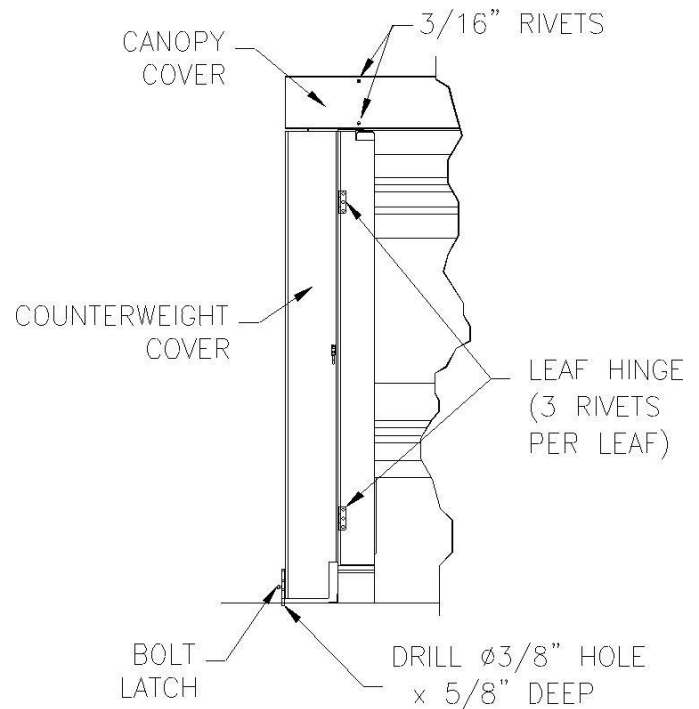

FIG. 4
- a. **Position the Counterweight Cover 1/2" above the floor** (Figure 4).
Place the crown wheel over the body of the motor. Slide the slot in the motor crown over the raised key on the motor's limit switch unit. (See Fig. 4)